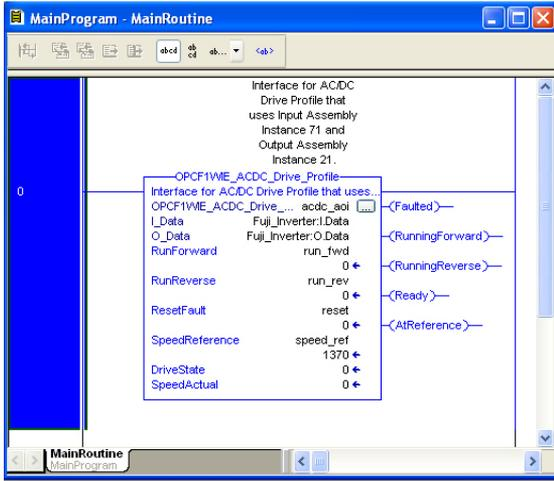

Figure 97: Configure AC/DC Drive Profile AOI
10) Edit the add-on instruction according to Figure 97.